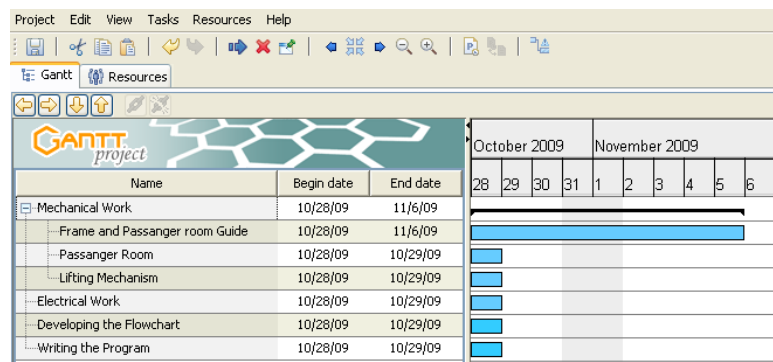

Figure 3.12: The subtasks under the Electrical Work main task.
10. With the **Developing the Flowchart** task still selected, click the **New Task** button and specify a name of **Writing the Program**. Notice that the task automatically displays as a subtask of **Electrical Work** as shown in figure 3.12.